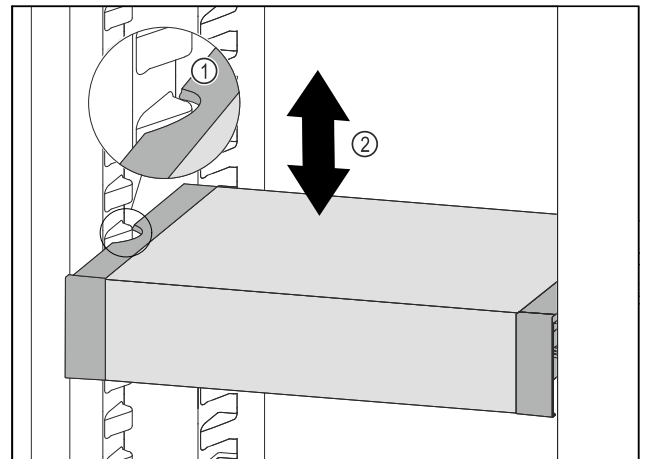

Fig. 179
- ▶ Pull VarioSafe forwards until the recesses in the side of the VarioSafe are at the level of the support rib in the refrigerator compartment. Fig. 179 (1)
- ▶ Move VarioSafe up or down in the refrigerator compartment until the desired height is reached. Fig. 179 (2)